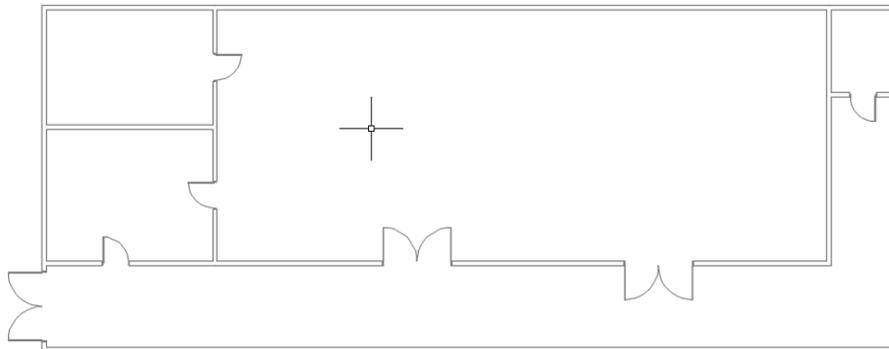

Figure 3-49 The drawing after creating all the doors
- e. Create the roof according to the plan, refer to Figure 3-49.
After creating the doors, the drawing is displayed as shown in Figure 3-49.
2. Select one of the corner points of the building displayed in Figure 3-49; you are prompted to specify the next point for the slab.